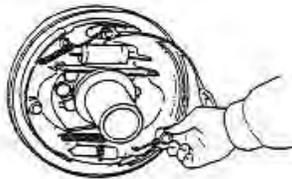

figure 2-26
(5) Block parking brake wire rope by E-shape retainer ring.
(6) Fix brake shoe hoof by fastness spring. See figure 2-26.